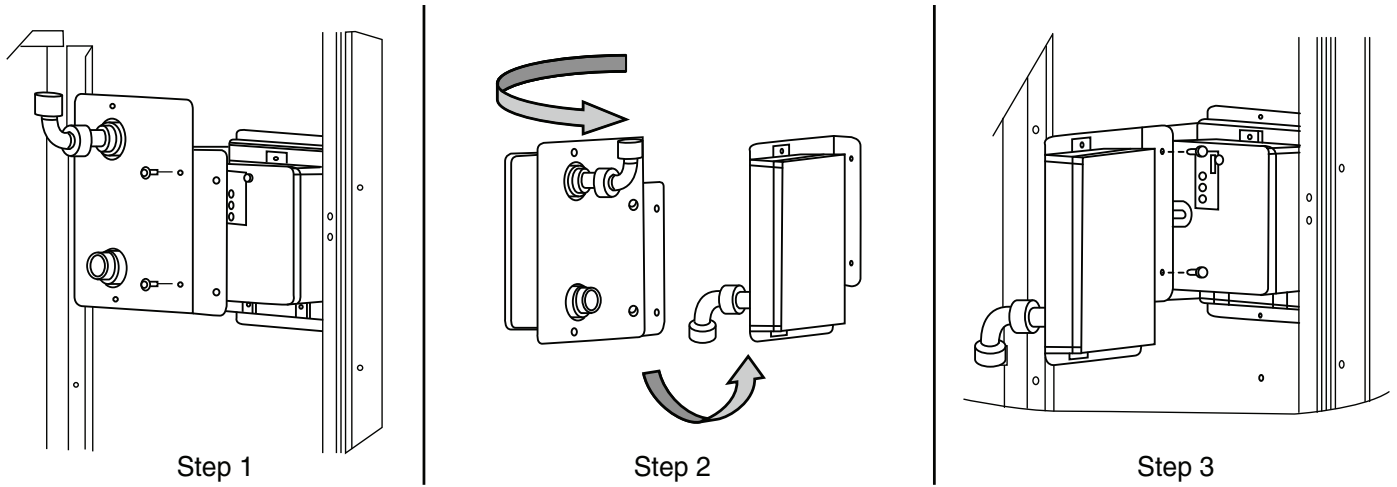

Fig. 55 — Completing Installation of Return Air Smoke Sensor
1. Unscrew the 2 screws holding the Return Air Smoke Detector assembly. See Fig. 55, Step 1. Save the screws.
2. Turn the assembly 90 degrees and then rotate end to end. Make sure that the elbow fitting is pointing down. See Fig. 55, Step 2.
3. Screw the sensor and detector plate into its operating position using screws from Step 1. See Fig. 55, Step 3.